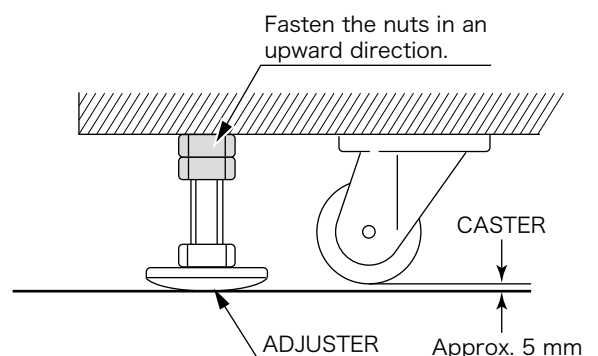

FIG. 6.1c Aligning the Adjusters
- ① Move the cabinet to the desired location. Make sure there is space in the back for air to flow.
- ② Bring the adjusters into direct contact with the floor. Use a wrench to align the height of the adjusters until the cabinet is perfectly level. If the floor is level, the machine should be level with the casters about 5 millimeters from the floor. (FIG. 6.1c)
- ③ After making the final adjustments, fix the adjuster height by tightening up the adjuster nuts.